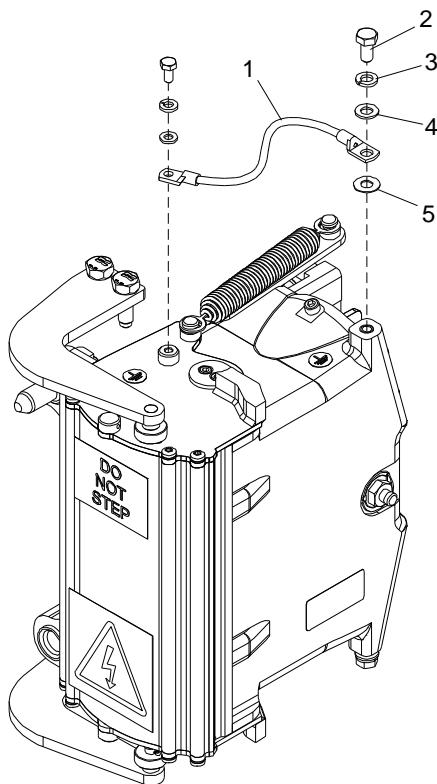

Figure 7-24: Replacement of Electrical Coupler Ground Cable
2. Remove the ground cable (1) by removing screws (2), lock washers (3), washers (4) and bi-metallic washer (5). See Figure 7-24.
2. Fit the ground cable (1) and mount bi-metallic washer (5), washers (4), lock washers (3) and screws (2). See Figure 7-24.